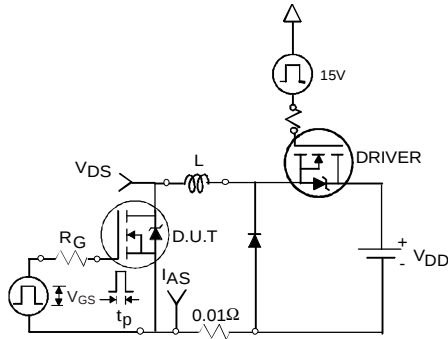

Fig 12a. Unclamped Inductive Test Circuit
3. Equation below based on circuit and waveforms shown in Figures 12a, 12b.
- ② Limited by T_{Jmax} , starting $T_J = 25^\circ\text{C}$, $L = 1.29\text{mH}$, $R_G = 25\Omega$, $I_{AS} = 5.2\text{A}$, $V_{GS} = 10\text{V}$. Part not recommended for use above this value.
- ③ Pulse width $\leq 1.0\text{ms}$; duty cycle $\leq 2\%$.
- ④ C_{OSS} eff. is a fixed capacitance that gives the same charging time as C_{OSS} while V_{DS} is rising from 0 to 80% V_{DSS} .
- ⑤ Limited by T_{Jmax} , see Fig.12a, 12b, 15, 16 for typical repetitive avalanche performance.
- ⑥ This value determined from sample failure population. 100% tested to this value in production.
- ⑦ When mounted on 1" square PCB (FR-4 or G-10 Material). For recommended footprint and soldering techniques refer to application note #AN-994